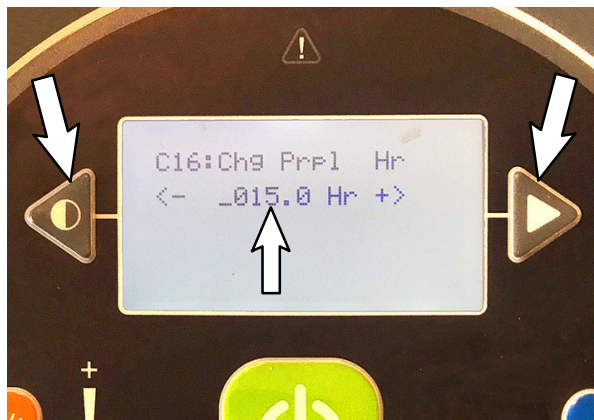
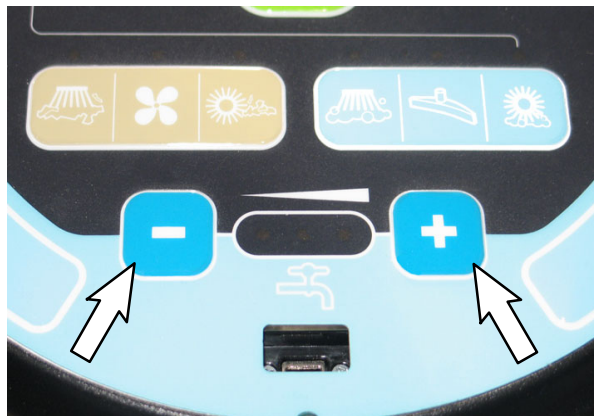

FIG. 32
FIG. 33
- Reset the hour meter at the C16: Chg Prpl Hr screen: Use the minus (-) button and plus (+) button to set/reset numbers and the right arrow button to move to the next number. If necessary, use left arrow to move back to previous number. (Fig. 32/Fig. 33)